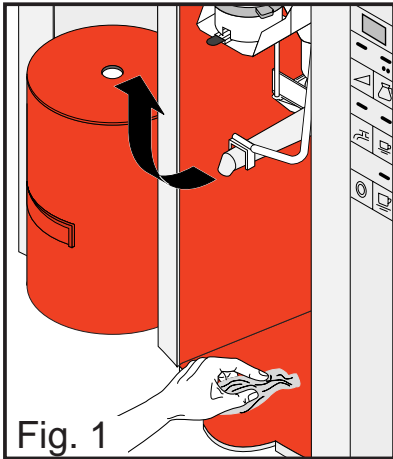

Fig. 1
- Clean door, housing and bottom of the dispenser on the inside with a damp cloth. (Fig. 1)